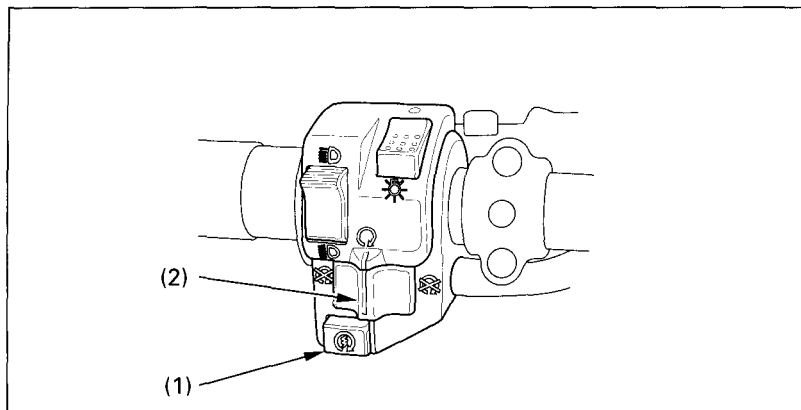

Fig. 2-7
The starter button (Fig. 2-7) is below the engine stop switch. To start the engine, press the starter button (1), with the transmission in neutral, the ignition switch ON ( I ) and the engine stop switch (2) at RUN ( O ).